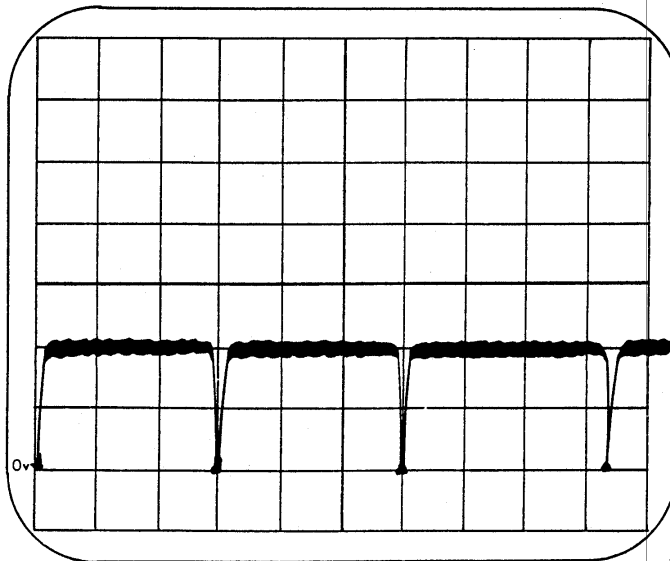

Figure 3-5. Waveform for Test Point 7
4. Trigger scope on M12 (zone C3) going HIGH and observe TP7 (zone C1, Figure 3-5). Set the scope at 10 microseconds/division.